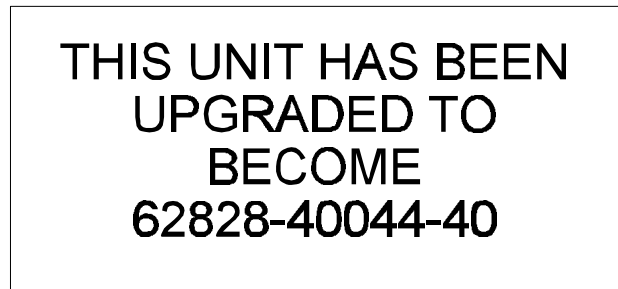

Figure 3. Re-IDENTIFICATION LABEL
38. Affix the identification label nameplate which has the unit's serial number. The nameplate is located on the inside of the ACUs front door. Refer to figure 3.